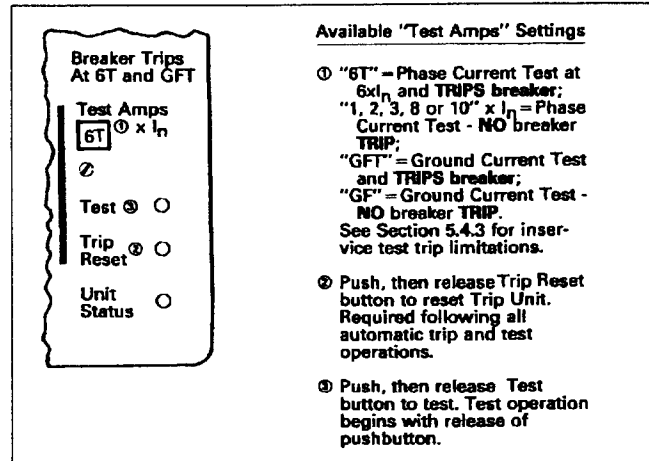

Fig. 5 Integral Test Panel (Lower Right Corner of Trip Unit)
As indicated in Fig. 5, six different "Test Amps" settings (1, 2, 3, 6T, 8 and 10X  $I_n$ ) are available for testing the phase elements of the trip unit, and two (GF, GFT) are provided for testing the ground elements.
1. Place the "Test Amps" selector switch (See Fig. 5) in one of the six "No Trip" test settings, i.e., 1, 2, 3, 8, or 10,  $\times I_n$ , or GF.
2. Place the "Test Amps" selector switch (See Fig. 5) in one of the two "Trip" test settings, i.e., 6T or GFT.
3. Depress the black "Test" pushbutton (See Fig. 5) and release it - the test is initiated when the pushbutton is released.
5. Reset the trip unit by depressing and releasing the "Trip Reset" pushbutton (See Fig. 5). All LEDs lighted by the "Trip" test action should turn "OFF".